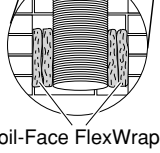

Figure 14
9. When using HomeSaver Flex to reline a fireplace, the flex is to be terminated at the bottom of the chimney flue just above the smoke chamber. Termination is illustrated in Figure 14, page 18. Support rods are installed as explained in point 7, above, with the added instruction to be sure the rods are spaced widely enough to not block the hole in your stainless steel bottom plate. Install your four support brackets by bolting to the flex in a position that will have them resting on the bottom plate, and so no more than 2" of flex is below the plate (Figure 14, page 18). As an alternative method of support, a HomeSaver Bottom Plate Leg Support System can be used instead of support rods. Full instructions come with each system. (See Figure 14, page 18).
A second alternative is an insulation plug used to form a bottom plug (Figure 14, Alternative B, page 18). It must be tightly packed with HomeSaver Foil-Face FlexWrap to a depth of 6". Refractory cement may be used in between the layers of ceramic blanket to create the seal. Make sure there is adequate support at the top of the chimney. If the liner, including insulation weighs more than 150 lbs., double up on top plates and top/bottom support brackets.
K.) Trim any excess FlexWrap and ArmorMesh from the top of your installation back to within 6" of where the flex will stick through the top plate or factory-built liner adaptor (see Figure 14, page 18). Clamp the ArmorMesh to the flex at this point. Leave no more than 3" of flex protruding above the flex top plate.
E.) Insert a friction-fit Guardian Cap, Figure 14, page 18. Or...